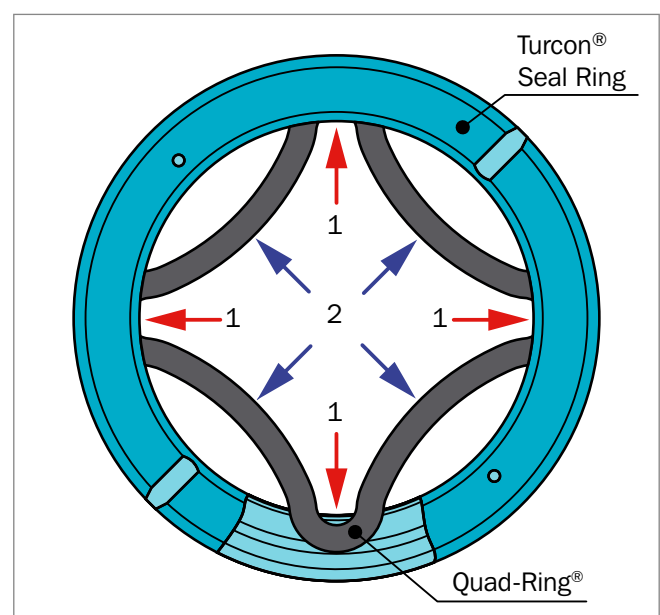

Figure 159: Insert sections of Quad-Ring® diagonally into the lubrication groove
- 2) Insert four small sections of the Quad-Ring® cord into the lubrication groove, as shown at the red arrows on Figure 159. Continue to insert sections in direction of the blue arrows, followed by more sections, until the entire cord is mounted.